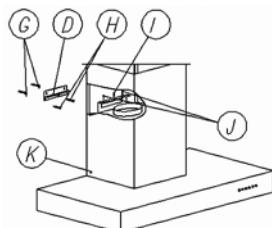

Fig. 4
- Hang the appliance body on the holder (K). Set the correct vertical position by means of screws (J) and (I), as shown in Fig. 4.
- Mount on the appliance body both chimney covers (K and N); push up the upper chimney cover (N) to the height required, and mark on the wall the height of its upper edge (Fig. 4 and 5). Remove both chimney covers.